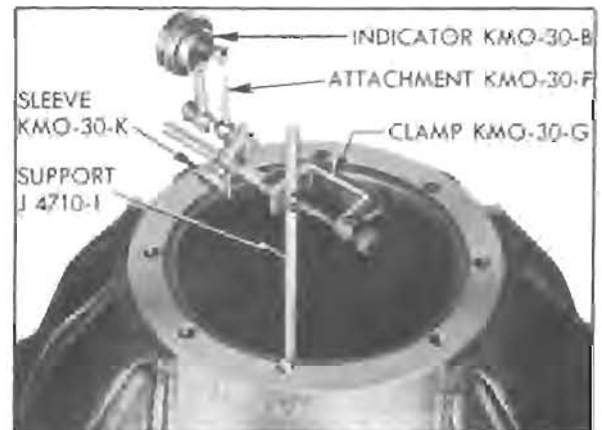

Figure 2-46—Checking Runout of Bell Housing Pilot Hole
8. Mount Dial Indicator KMO-30-B, Hole Attachment KMO-30-F, and Sleeve KMO-30-K on Clamp KMO-30-G so that hole attachment bears against inner edge of pilot hole in bell housing. See figure 2-46.